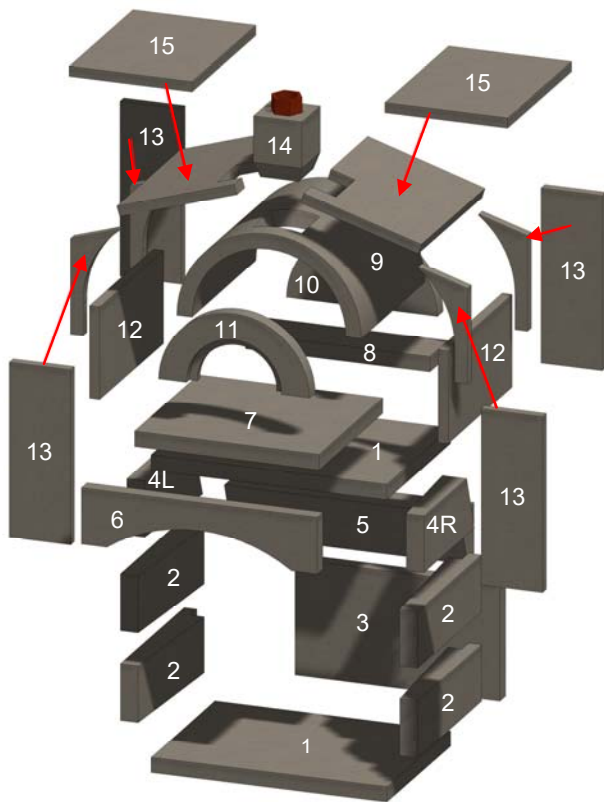

Figure 2. Fireplace Components
This unit is delivered as a kit with all components necessary to complete the installation. Component arrangements are shown in Figure 2. Components are listed in Table 1. Some pieces are larger and shaped differently than required for installation, and are intended to be field-cut to fit. These are shown in Figure 2, with red arrows showing the shape of the piece. Specific instructions for cutting each piece are listed in the installation step where these pieces are to be installed.
- A. Fireplace items shown in Figure 2 and listed in Table 1.
<p>Note 1: Item numbers refer to component numbers in Figure 2.</p> <p>Note 2: Additional oven flue sections are available for purchase. Flue sections must be purchased separately.</p>
Select an outdoor location for installation. Proceed as follows. Numbers in () are item numbers from Table 1 and Figure 2. Ensure the base on which the fireplace is to be installed is a solid and level foundation and is composed of non-combustible material, such as concrete.
If the unit is to be installed indoors, do not use the Riser Legs (items 1 and 1A, shown in Figure 2 and Table 1). Instead, install the fireplace on a solid base, such as a cement pad or concrete blocks. Two courses of 8” tall block will be slightly shorter than the riser legs of the kit.
If this is your first Stone Age installation, it is suggested that you first assemble the components without mortar to familiarize yourself with how the components fit together. See Figure 2.